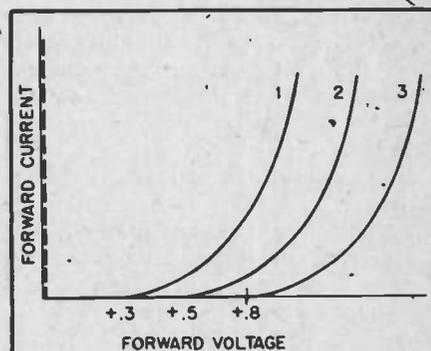

Fig. 1. Current change is tied to temperature and voltage.
Obviously, the smaller we make R5, the more gain we get, until finally, when R5 = 0, we get the most gain we can obtain from this transistor. At this point—with R5 shorted out, and the capacitor C3 therefore directly across the 2,000-ohm resistor, R3—the gain is identical to the gain obtained from the Russian Roulette Special circuit of Fig. 1. It is just as large, and just as unpredictable. Such a circuit, with R5 shorted out and C3 directly across R3, is sometimes used to obtain the most AC (signal) gain available from the transistor, while still preserving the top-notch DC-operating-point stability of the Fig. 3 circuit. Any transistor plugged into such a circuit will have the same DC operating point as any other transistor in that circuit, or one like it; however, the gain for the signal will differ markedly from one transistor to another.
Figure 1 illustrates all of these characteristics. Note that when the forward voltage is below a certain level, but greater than zero, the diode does not conduct. After the diode begins to conduct, it can be seen that the conduction is nonlinear. This is shown by the curvature of the lines on the graph. Curve No. 1 is a relative representation of a diode at a low temperature while curves 2 and 3 represent the conduction at higher and higher temperatures. The fact that the curves are not vertical just points out that there is a certain amount of resistance inherent in the diode at all times. As the diode current increases we see the curve becomes more and more vertical in nature, which means the resistance of the diode is dropping.
**Continuing.** Now let's start with zero volts at the input of circuit 2b and increase it in a positive direction. Any positive input value that is very small will be amplified 10,000 times. Hence, when the input voltage has reached only 0.05 millivolts the output at pin 6 will be 0.5 volts and the diode will begin to conduct. In other words, in circuit 2b an output voltage begins to appear at the circuit terminals immediately, and in circuit 2a, only after the input has reached +0.5 volts. For this reason, circuit 2b is sometimes referred to as a "perfect" rectifier. The output curve of this circuit is illustrated by the dotted lines in Fig. 1.